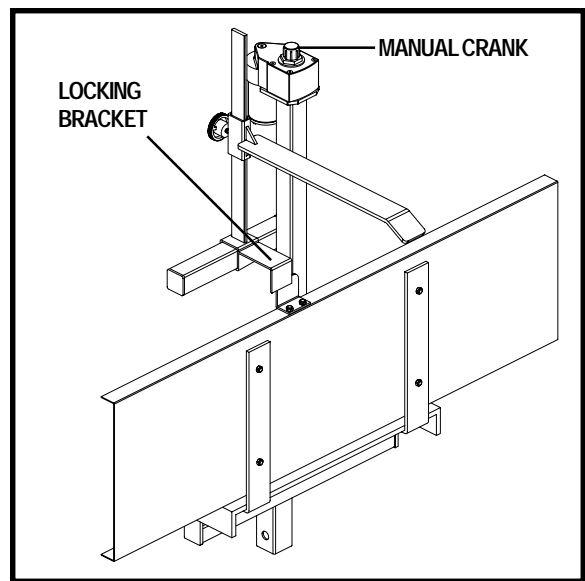

Figure 9. Platform Storage
3. Pivot the platform to a vertical position, then raise the lift until the platform is secured in the stowed position by the locking bracket. See figure 9.
The lift system is equipped with a manual crank that serves as backup in the event of a power failure. Using the supplied tool, rotate the manual crank (located on top of the motor housing) clockwise or counterclockwise to move the platform up or down. See figure 9.